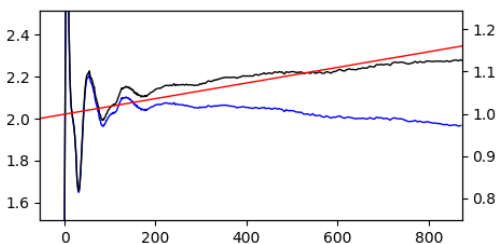

Figure 2-7: With this subtraction the post-edge still has a bit of negative slope.
- 8) With the pre-edge background removed, we'll now move on to removing the post-edge background. There is a lot of variability in post-edge backgrounds and it's common to need a quadratic fit to adequately remove them. Before we get to that, we should change the "End" value of the post-edge subtraction to be the end of the scan, in this case 875.43 eV; you'll note that doing this extends the blue subtracted plot to the end of the scan. If you zoom in on the post edge region (using the plot in the upper left window), you'll notice that at this point the subtraction causes the data to have a slightly negative slope (Figure 2-7). We want the slope to be as close to zero as possible, so the parameters still need some tweaking.